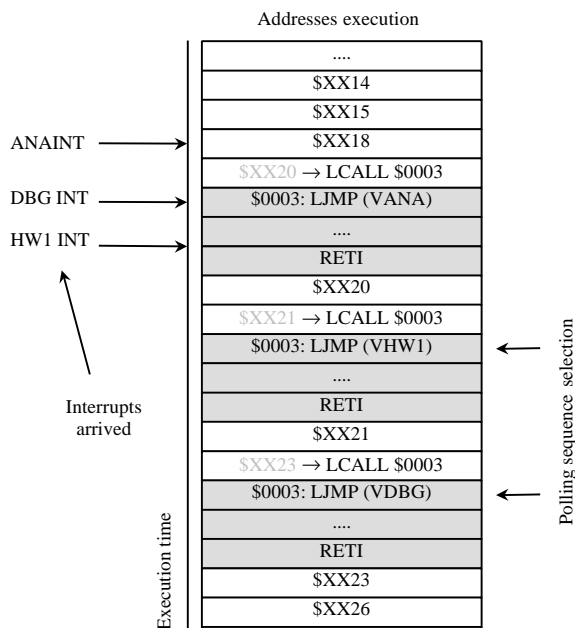

Figure 3.1: Interrupt registering in the extended mode
- ✓ If various external sources interrupt simultaneously, the *EIC* block will register them. Each time one of the request interrupts is acknowledged the *EIC* block sets the corresponding IE.x flag, until all of the interrupts arrived were serviced (see figure 3.1).
Same table as the basic mode interrupt vector table is used in the extended mode. When an external interrupt flag is set and the hardware LCALL jumps to the routine address (\$0004 and \$0013 for flags IE0 and IE1, respectively), a HW-LJMP instruction is executed. The address field of the instruction depends on the source of the interrupt (see figure3.1). Values from the SFR map are used, as shown in Table 4.2. Note that the same vectors are used in both external interrupts.